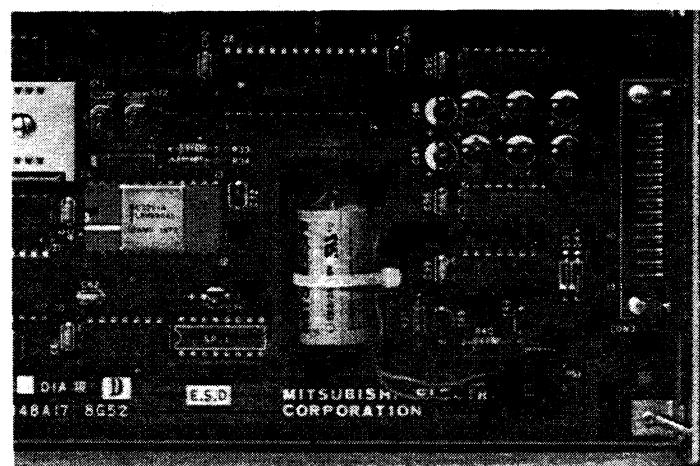

Fig. 4.3.13 Installing the Backup Battery
- 4) Pick up both ends of the battery cable socket and insert the socket into the connector on the card removed. At this time, make sure that the electrode side of the socket faces down (the card surface) to ensure correct polarity. (See Fig. 4.3.13.)